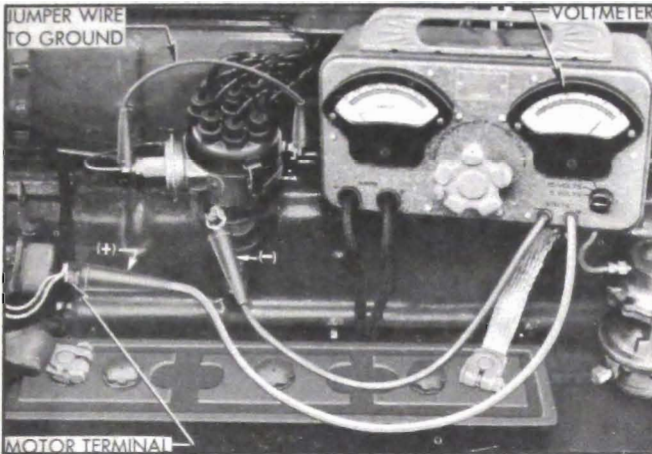

Figure 10-46—Cranking Voltage Test Connections
3. Connect voltmeter positive (+) lead to the motor terminal on solenoid switch; connect voltmeter negative (-) lead to ground on engine. See figure 10-46.